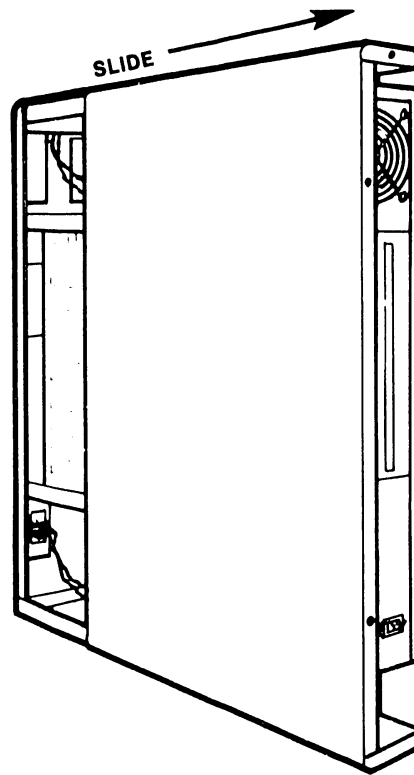

Figure 4-21 Side Cover Removal
4. Slide the right panel toward the rear of the unit to disengage the tabs which fasten the cover to the front corner post of the OIS 40/50 chassis (Figure 4-21).